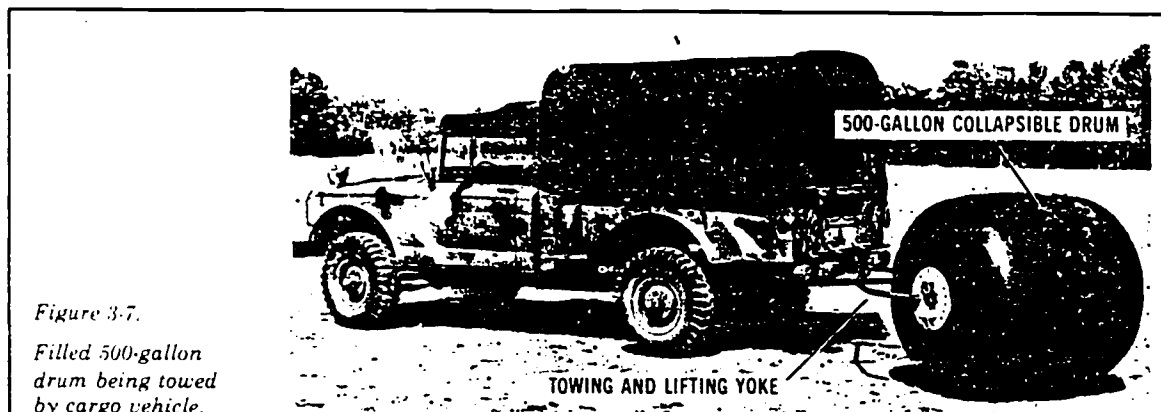

Figure 3-7.
□ **Towed by truck.** A filled drum can be towed a short distance to a dispensing area by a cargo truck (fig 3-7). A towing and lifting yoke must be used, and the drum must not be towed over sharp objects or rough ground.